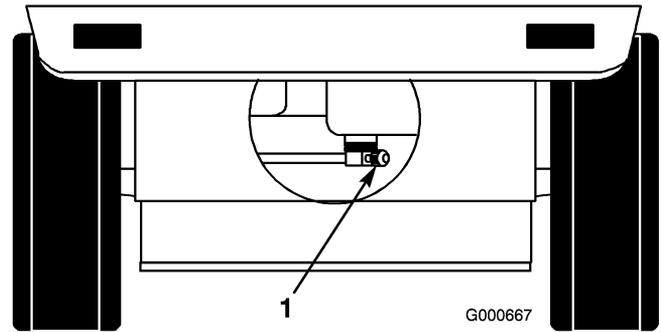

Figure 38
3. Close the fuel shut-off valve at the fuel tank (Figure 38).
3. Close fuel shut-off valve at fuel tank (Figure 38).
8. Open fuel shut-off valve at fuel tank (Figure 38).